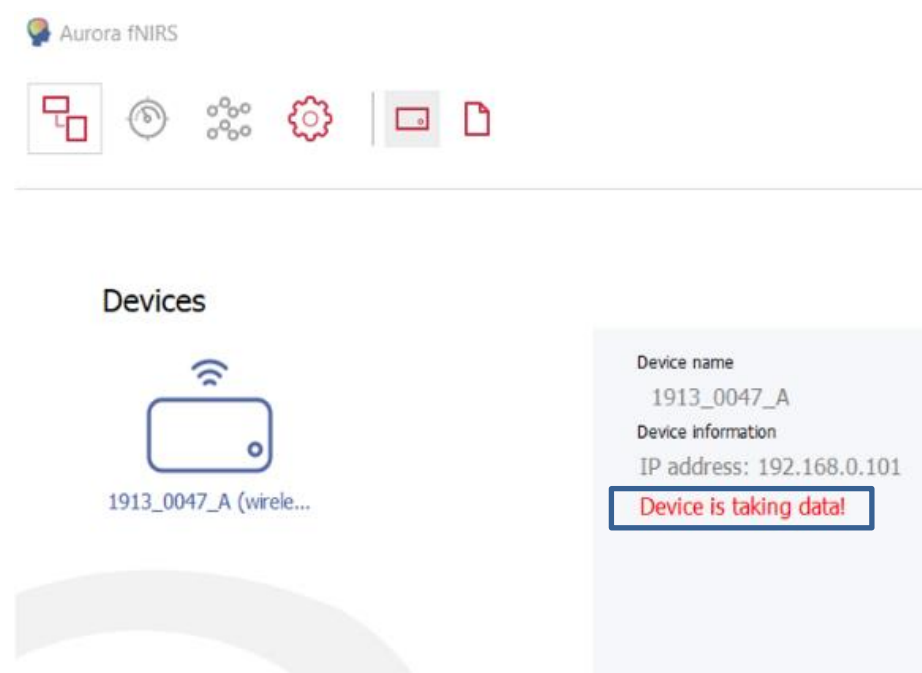

Figure 9.19: Device selection page, indicating that the device selected is recording in standalone mode.
Aurora will disconnect the device and return to the main page for device selection, as in Figure 9.19. In the right information panel, there will be a notification that the *Device is taking data!* meaning that it is recording in standalone mode.
- b. Your device should appear in the list, with the indication “Device is taking data!” as shown in Figure 9.19. Select the device and proceed.